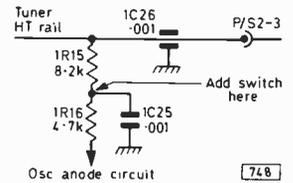

Fig. 4: A switch was fitted between 1R15 and 1R16 in the v.h.f. tuner to switch the oscillator in and out of circuit.
Fig. 4: Veroboard layout, viewed from the component side (0.1 in. Veroboard used). R27 and D6-9 are mounted on the copper side. Connections to VR1 and VR3 can be made via flying leads or if sliding potentiometers are used (as in the prototype) these can be soldered directly to the copper side. Ensure that the mains connections are well insulated from the rest of the circuit board.
In connection with the modified blanking circuit described last month it should perhaps be made clear that the line flyback blanking pulses are taken, as in Fig. 4 on page 403 of the July issue, from 9N via C704 and R709 to the junction R712/R708.
components list (Fig. 4)
*See Fig. 4 caption.